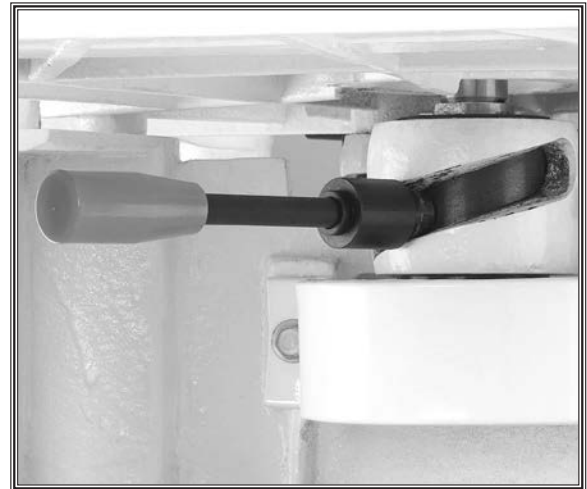

Figure 18. Spindle-height lever.
2. Move the spindle height lever shown in **Figure 18** to raise the spindle or left to lower the spindle.